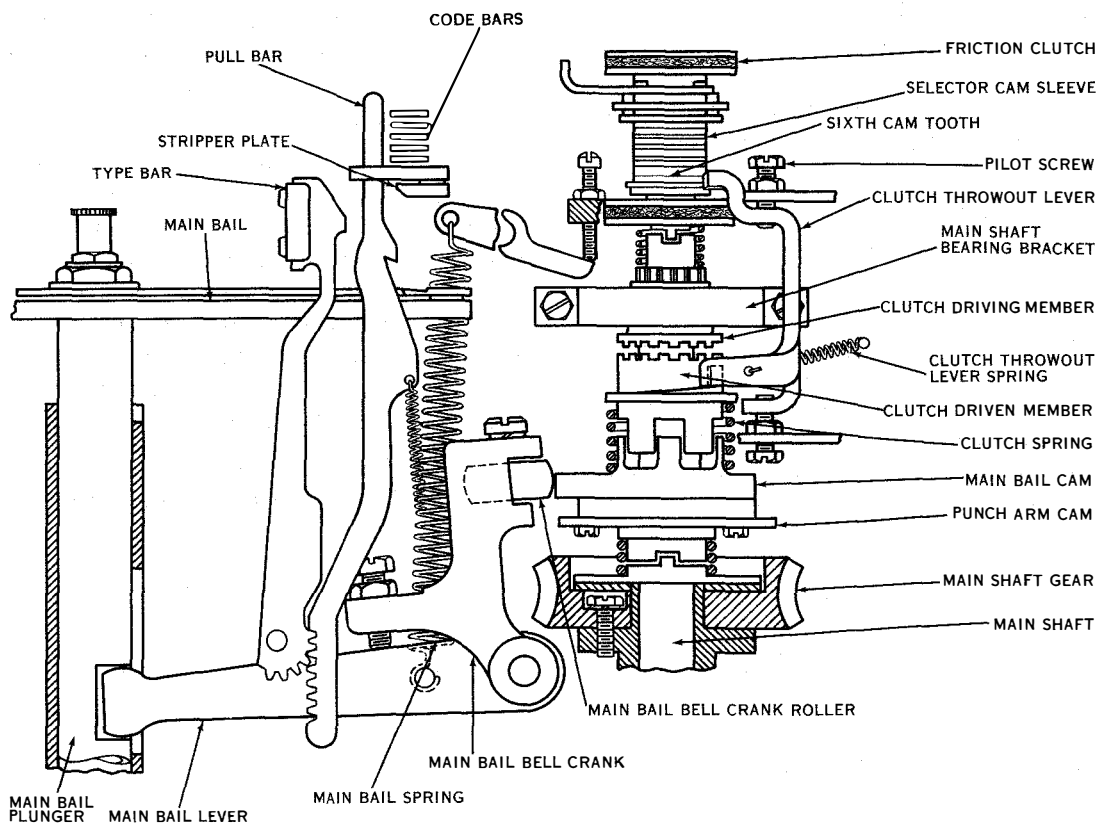

Figure 2-35. Printing Mechanism
(5) PRINTING MECHANISM.—The motive force for the performance of the printing and other functions (except perforating and spacing) is obtained from a main bail spring through a main bail, main bail plunger, main bail lever, main bail crank roller, and main bail cam (see figure 2-35). In the normal stop position, the main bell crank roller is on the high part of its cam. In this position the main bail holds the pull bars forward away from the code bars so that the code bars may be positioned by the T levers.